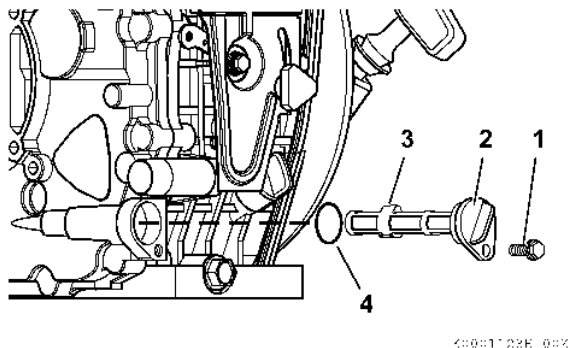

Figure 69
1. Remove the oil filter retaining bolt (**Figure 69, (1)**).
3. Pull the oil filter cap (**Figure 69, (2)**) out and remove the oil filter (**Figure 69, (3)**).
5. Lubricate the O-ring (**Figure 69, (4)**) with oil and reinstall the oil filter (**Figure 69, (3)**).
6. Make sure the oil filter cap (**Figure 69, (2)**) is fully seated.
7. Reinstall and tighten the oil filter retaining bolt (**Figure 69, (1)**).